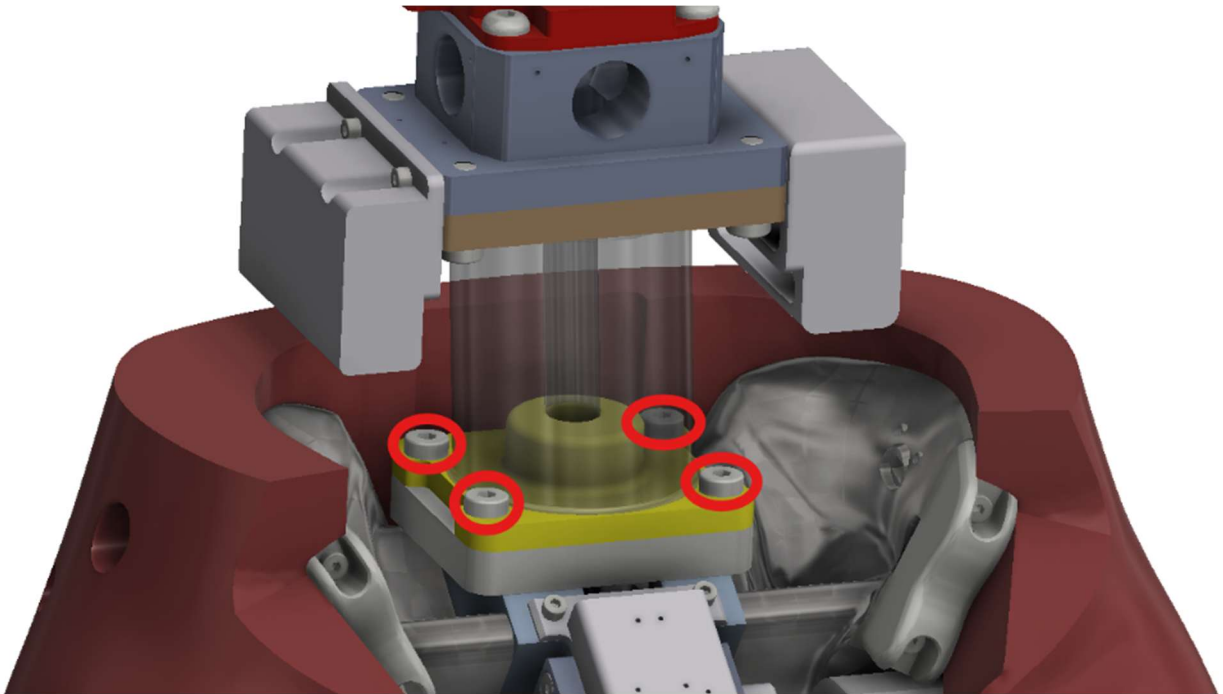

Figure 5-34. Remove four M8 X 1.25 X 20 LG. SHCS from the Lumbar Assembly (474-3223-A)
- 5.2.30 Remove the spine assembly (474-3200-A) from the pelvis (Figure 5-34) by removing four M8 X 1.25 X 20 LG. SHCS from the Lumbar Assembly (474-3223-A).